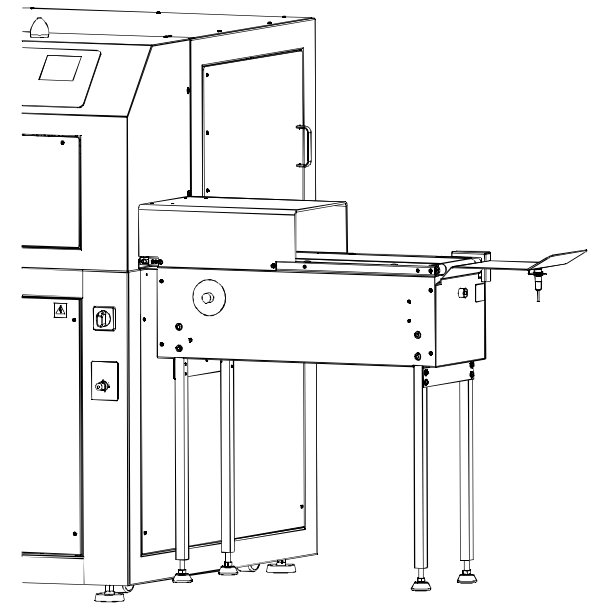

Figure 2-13. Exit Conveyor Placement
2. Move the exit conveyor to the right-hand side of the as shown in Figure 2-13.